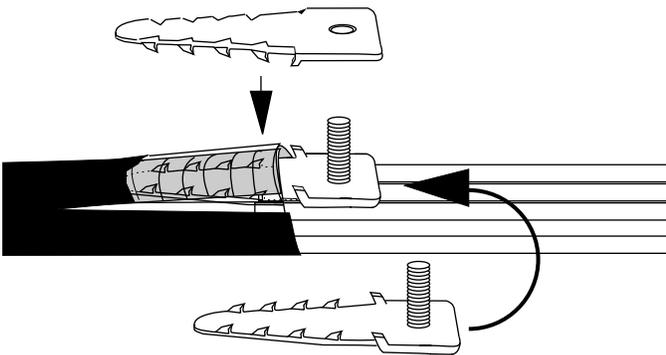

Figure 31
- Slide the base plate under the armor. Be careful not to damage the buffer tubes. Place the top plate over the base plate and tighten down with its lock nut (Figure 31). A few light taps on the top plate may help seat the teeth of the grounding clamp.